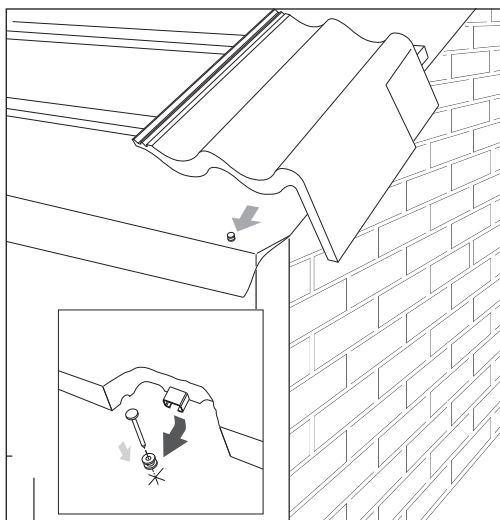

Fig 3 Allow play for verge unit to slide down
- 9 Leave a small amount of play to allow cloak verge unit to slide down and engage spacer unit (Fig 3).